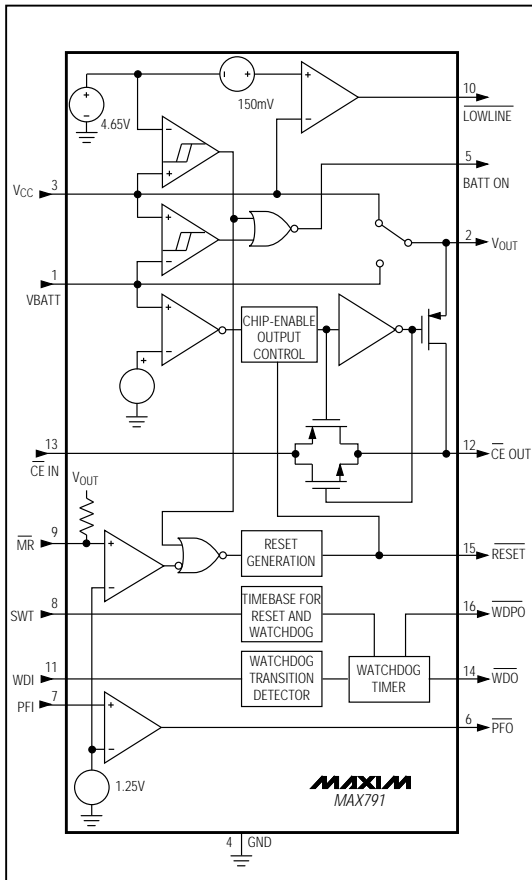

Figure 1. Block Diagram
Many μP -based products require manual-reset capability, allowing the operator or test technician to initiate a reset. The Manual Reset Input ($\overline{\text{MR}}$) can be connected directly to a switch, without an external pull-up resistor or debouncing network. It connects to a 1.25V comparator, and has a pull-up to V_{OUT} as shown in Figure 1. The propagation delay from asserting $\overline{\text{MR}}$ to $\overline{\text{RESET}}$ asserted is $4\mu\text{s}$ typical. Pulsing $\overline{\text{MR}}$ low for a minimum of $15\mu\text{s}$ resets all the internal counters, sets the Watchdog Output ($\overline{\text{WDO}}$) and Watchdog-Pulse Output
The MAX791 provides internal gating of chip-enable (CE) signals, to prevent erroneous data from corrupting the CMOS RAM in the event of a power failure. During normal operation, the CE gate is enabled and passes all CE transitions. When reset is asserted, this path becomes disabled, preventing erroneous data from corrupting the CMOS RAM. The MAX791 uses a series transmission gate from the Chip-Enable Input (\overline{CE} IN) to \overline{CE} OUT (Figure 1).